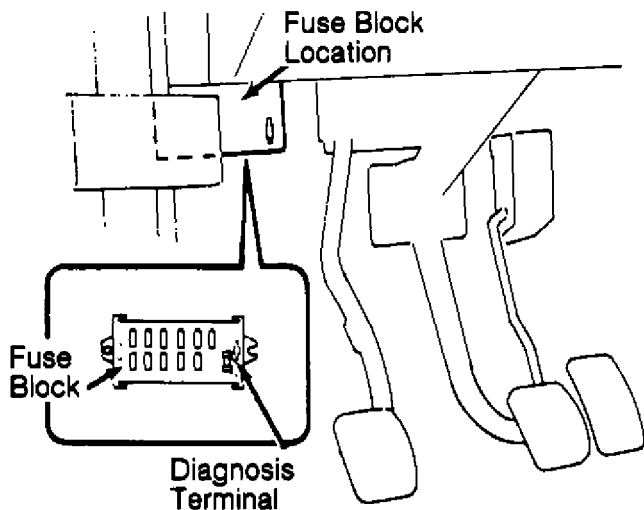

Fig. 4: Installing Diagnosis Terminal Fuse (Samurai)
1) Start engine, and warm it to normal operating temperature. Install spare fuse into diagnosis terminal of fuse box, and ensure Malfunction Indicator Light (MIL) indicates Code 12. See Fig. 4.